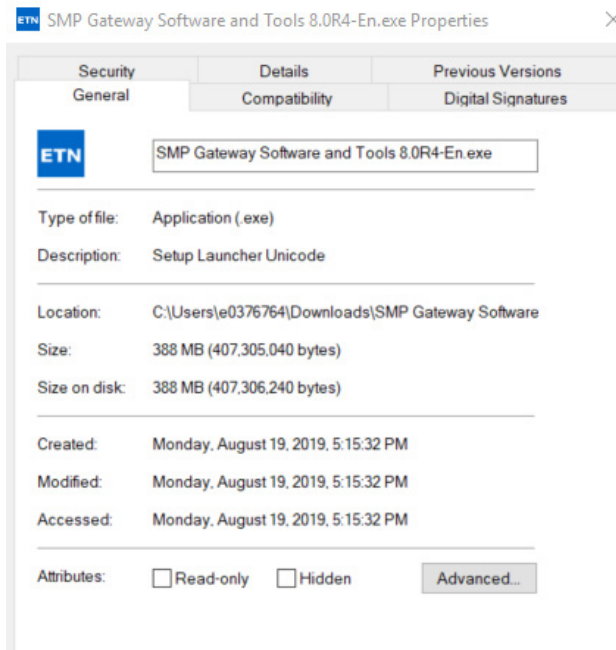

Figure 1: The Properties windows
5. Right-click on the file and select **Properties** (refer to Figure 1)